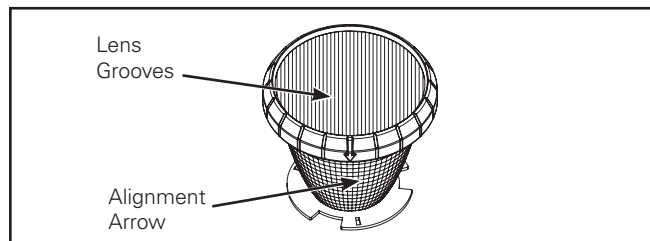

Figure 8.
2. When using directional media such as the Linear Spread Lens (optional) align the lens grooves with Alignment Arrow on Media Holder (Figure 8).